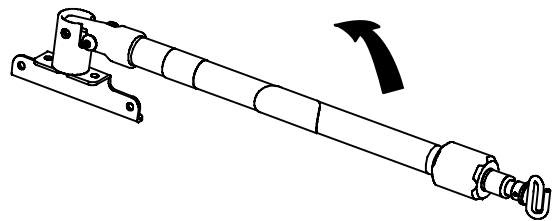

Figure 25 – Two-stage IV pole storage position
1. Lift and pivot the IV pole from the storage position. Push down until the IV pole locks into the receptacle (A).
2. To raise the height of the IV pole, turn the locking collar (B) counterclockwise and pull up on the telescoping section (C). Raise the IV pole to the desired height.
3. Turn the locking collar (B) clockwise to lock the telescoping section (C) in place.
4. Hang the IV bags on the IV hook (D).
5. Turn the locking collar (B) counterclockwise and slide the telescoping section (C) into the bottom tube.
6. Turn the locking collar (B) clockwise to tighten.
7. Lift up and pivot the IV pole down into the storage position (Figure 25).